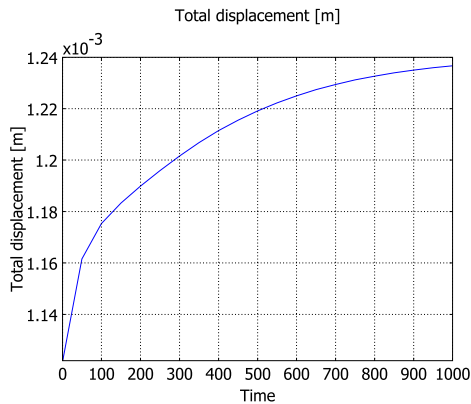

Figure 3-5: The total displacement at Point 38 as a function of time
Figure 3-5 shows a plot of the total displacement versus time at a point on the loaded face.
- 6 Click **OK** to plot the total displacement (see Figure 3-5 on page 58) and close the **Domain Plot Parameters** dialog box.